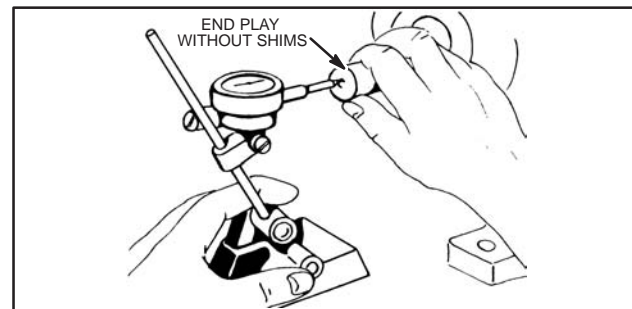
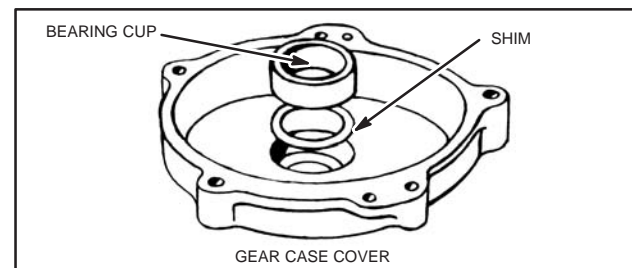
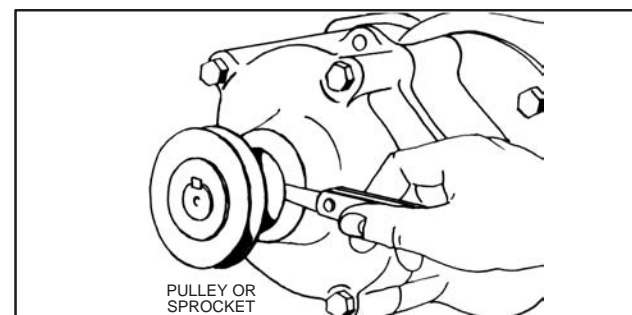

Fig. 127
Fig. 128
Fig. 129
6. Place an indicator at end of drive shaft, Fig. 127, and pull gear in and out to check end play, while rotating the shaft slowly. After determining end play, remove gear case cover and drive shaft from gear case. Then place as many .003" and .010" shims as required back of gear case cover roller bearing cup. See Fig. 128 and note below. The bearings are assembled with a .002"-.005" pre-load. That is the total thickness of the shims must be .002"-.005" more than the end play without shims. Then reassemble parts. If you do not have an indicator, assemble a sprocket or pulley to drive shaft and check end play with a feeler gauge, Fig. 129.